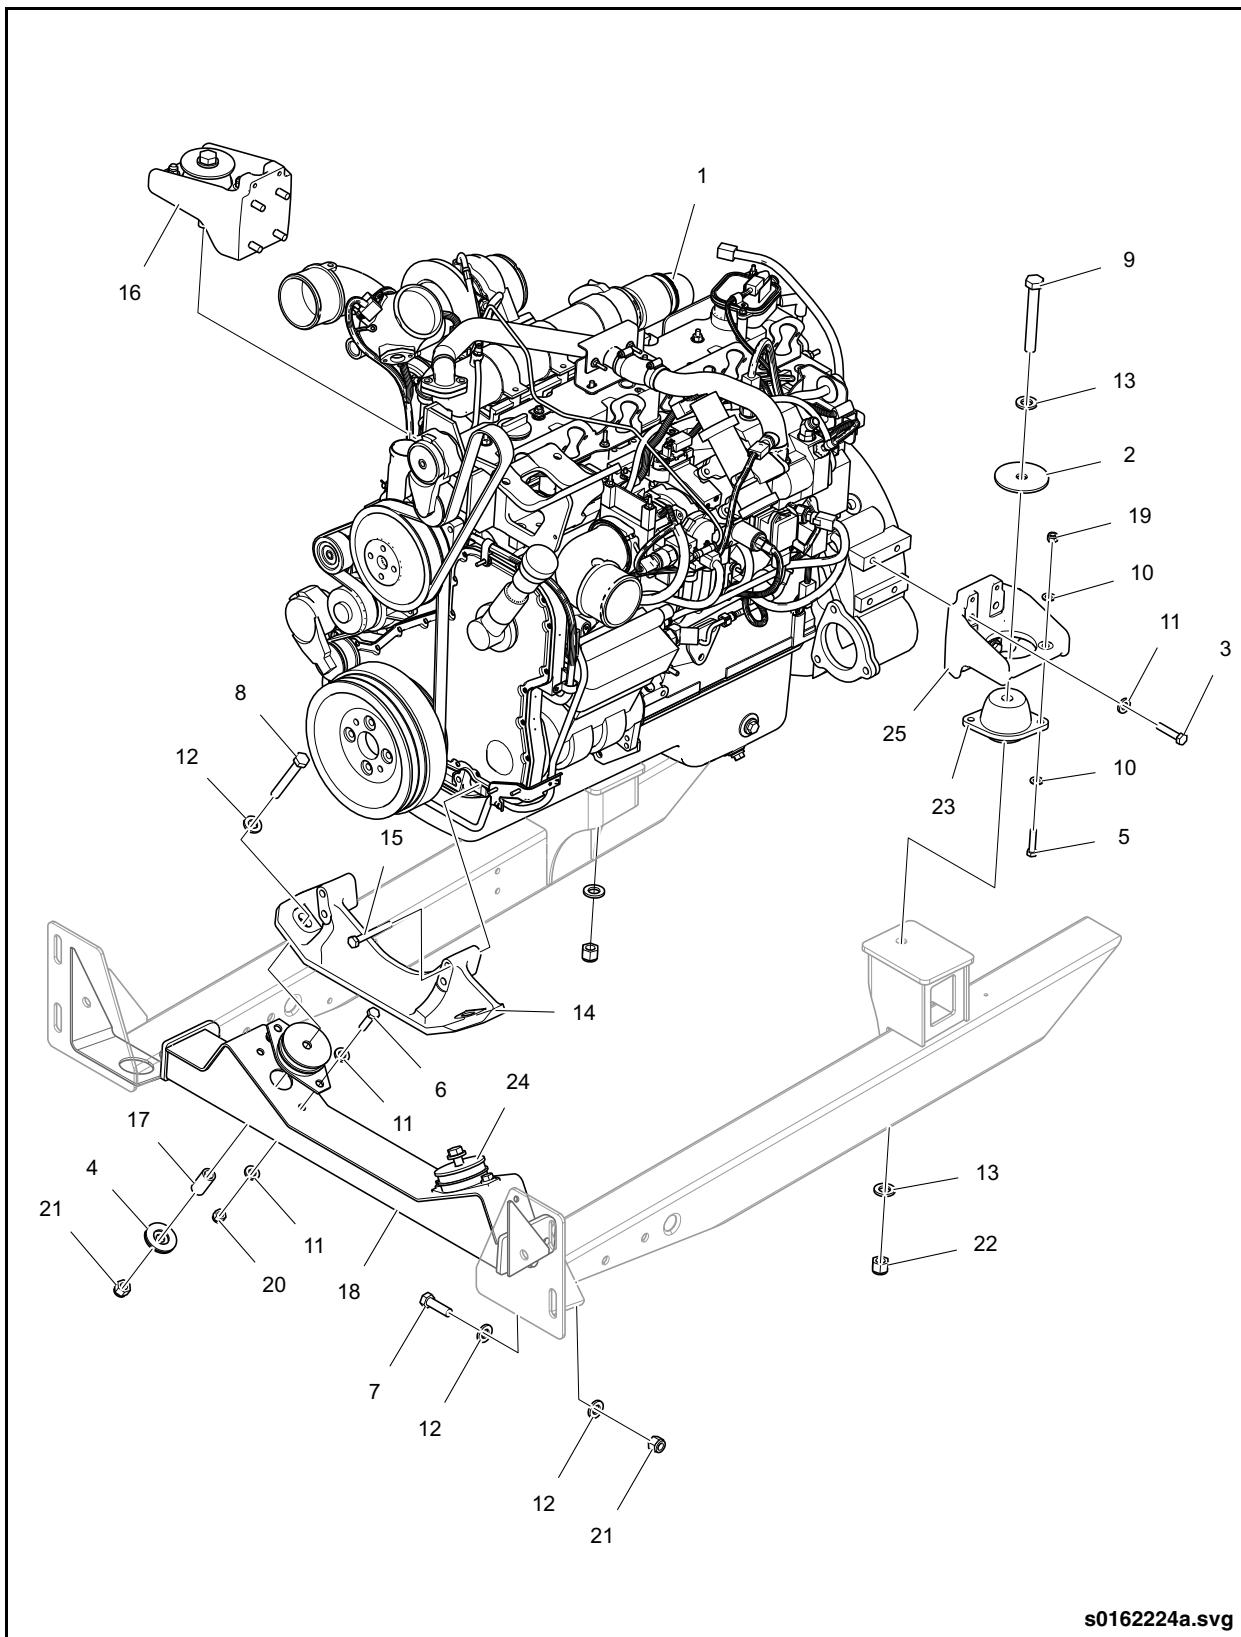

Fig. 4-5: Engine & Transmission Mounts
39. Position the support dolly beneath the engine and transmission and slowly lower the vehicle until some of the weight of the engine and transmission is taken by the support dolly. The engine mounts should be in a neutral load state at this point. See "Fig. 4-5: Engine & Transmission Mounts" on page 10.